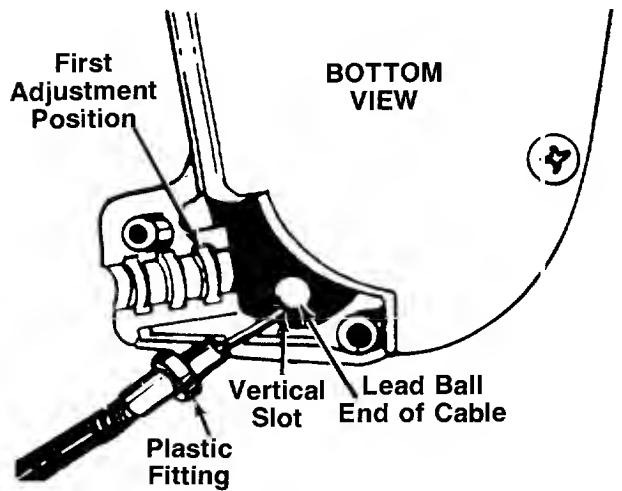

FIGURE 7.
- Place the lead ball end of the cable into the fitting provided in the end of the clutch control lever. Slip the braided wire into the vertical slot as shown in figure 7.
3. Place the plastic fitting on the control cable into the first adjustment position in the clutch control housing. See figure 7.